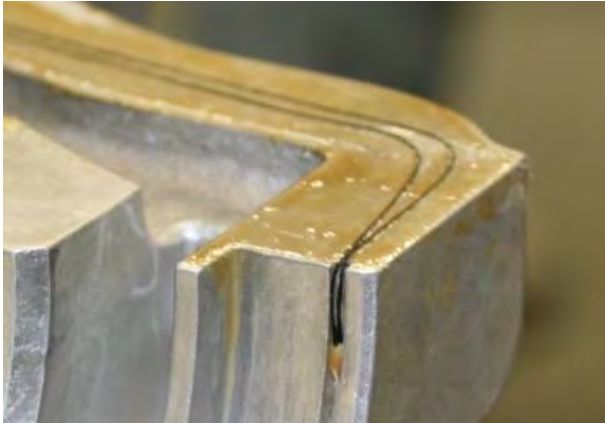

Figure 72
- (4) All continuous silk thread lengths must extend not more than ¼-in. (6.35 mm) beyond the front and rear end of the crankcase half. Figure 72 shows the thread overhand extension into the seal groove on the front end of the crankcase half. Figure 73 shows the silk thread overhang extending from the rear of the crankcase half.